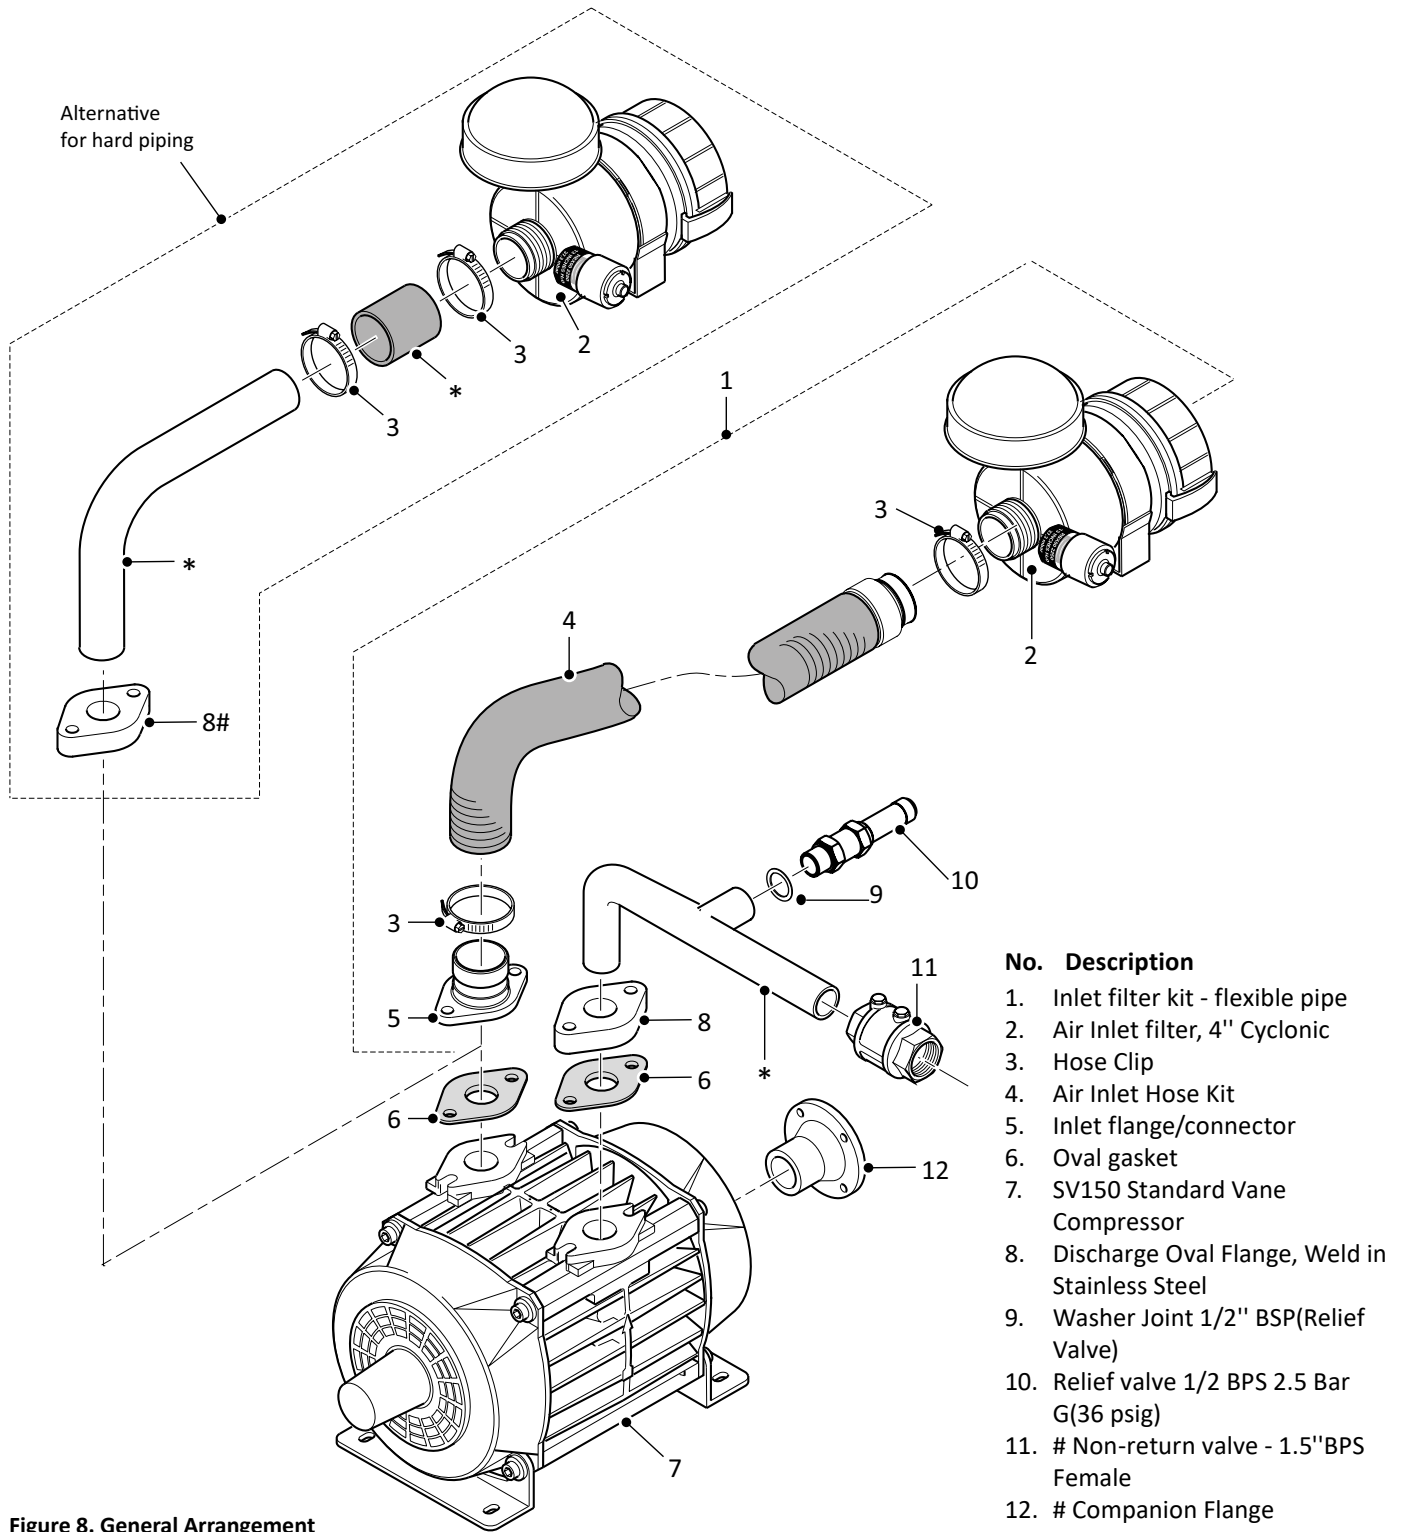

Figure 8. General Arrangement
#### **Air Inlet Filter and Flexible Induction Kit. (Fig 8, items 1)**
#### **Relief Valve. (Fig 8, Item 10)**
#### **Check (non-return) Valve (Fig 8, Item 11)**